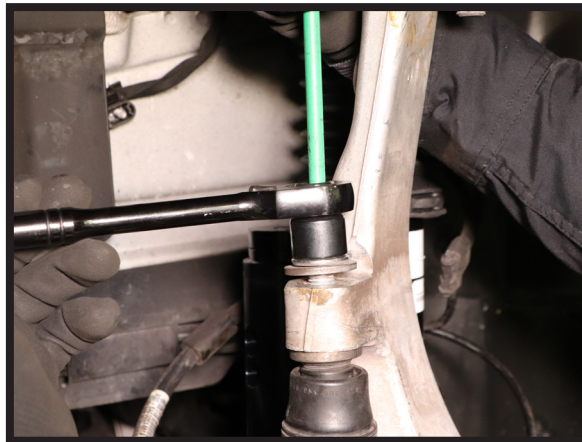

FIGURE 28
8. REINSTALL SWAY ARM LINK NUT AND TIGHTEN TO MANUFACTURER'S SPECIFICATIONS. (FIGURE 28)